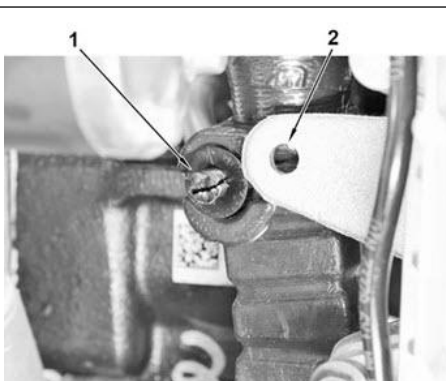

**Figure 14 - Harness to ECM Bracket attachment**
17. Reinstall fir-tree type push pin that secures engine harness to ECM bracket (Figure 14, Item 1 and 2).